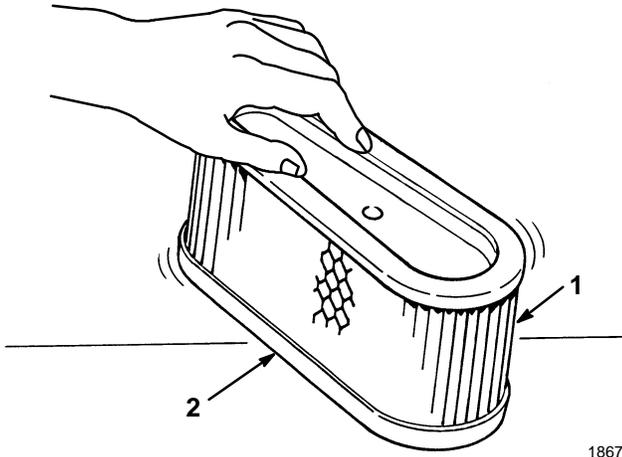

Figure 29
- Lightly tap the element on a flat surface to remove dust and dirt (Fig. 29).